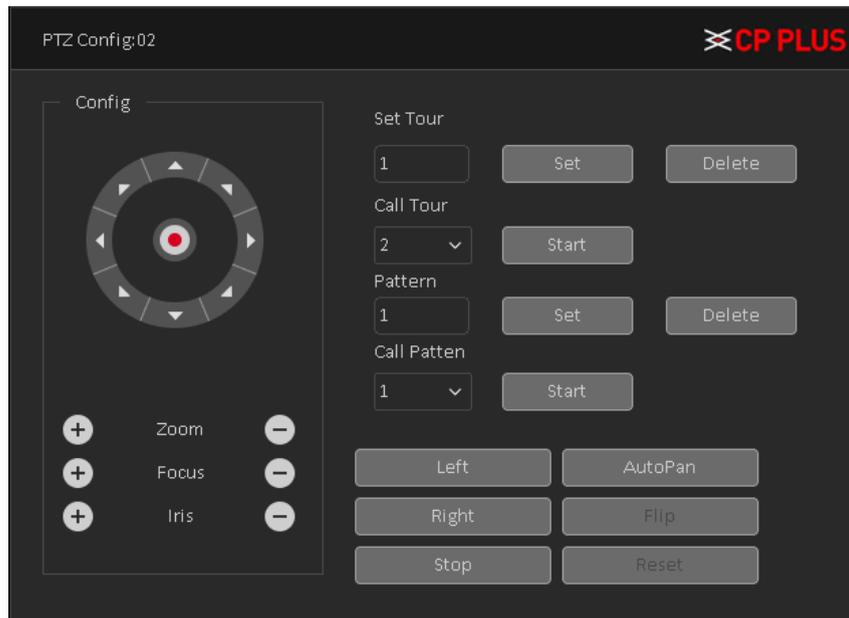

Figure 3.30
- b. To stop Auto Pan, click on  button. See Figure 3.30